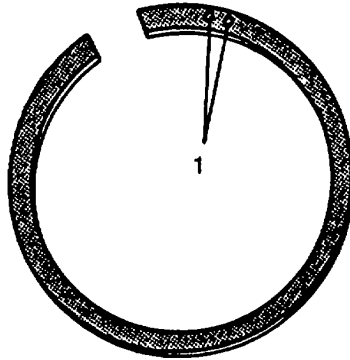

FIGURE 3-164. Compression Ring Identification Marks
- (3) Rectangular compression ring (FIGURE 3-164) is marked with two depressions or with word TOP to identify top side of ring. Install rectangular compression ring in center ring groove with mark toward top of piston.